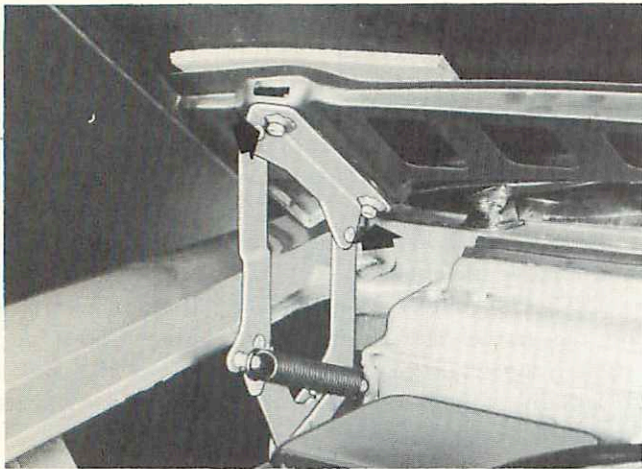

Figure 7—Hinge-to-Hood Screws
**REMOVAL**—Raise the hood and support it at each side. Note the present position of the hinge in relation to the hood to simplify adjustment on installation. Remove the retaining screws (A, Fig. 7) at each side and remove the hood.